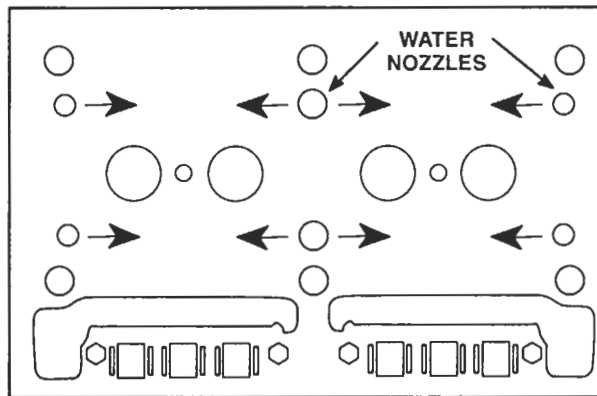

Figure 11. Correct Installation of Water Nozzles in Two-Valve Cylinder Head
- c. Press the nozzles in place with the nozzle openings parallel to the longitudinal center line of the two-valve cylinder head (Figure 11.) Install the 1/2 inch diameter nozzles at the ends of the cylinder head with their openings toward the center of the engine.